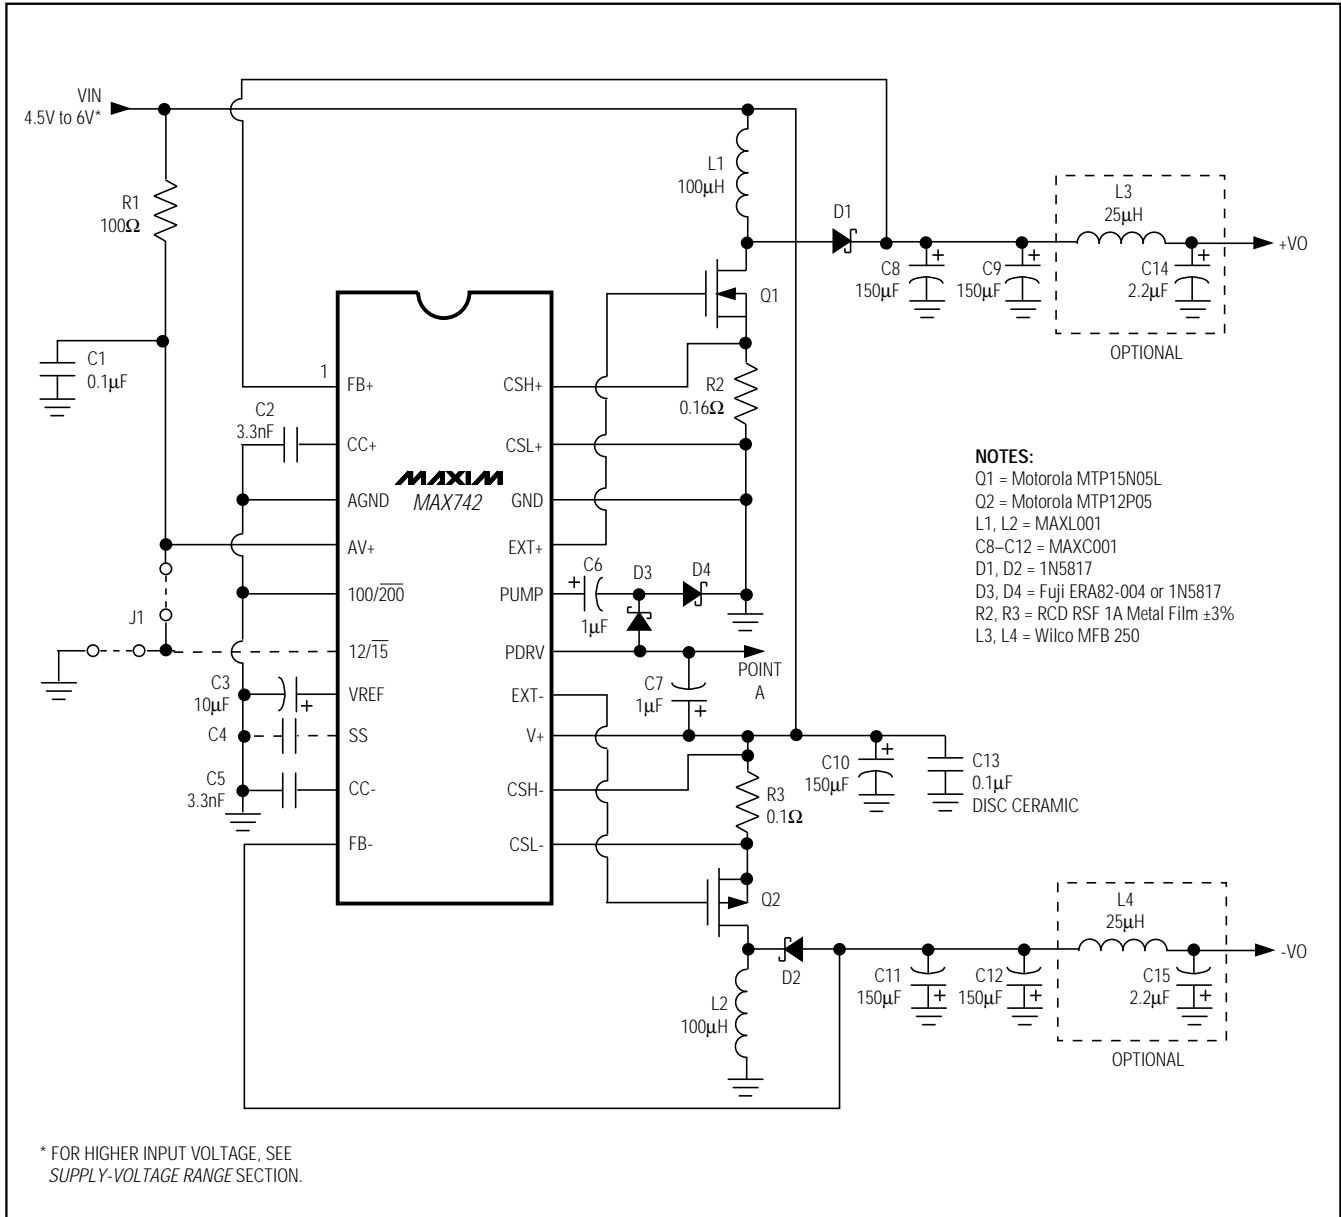

Figure 2. Standard 6W Application Circuit
(Circuit of Figure 2,  $V_+ = 5V$ ,  $100/200 = 12/15 = 0V$ ;  $T_A = T_{MIN}$  to  $T_{MAX}$ , unless otherwise noted.)
**Note 1:** Devices are 100% tested to these limits under 0mA to 100mA and to 125mA conditions using automatic test equipment. The ability to drive loads up to 1A is guaranteed by the current-limit threshold, output swing, and the output current source/sink tests. See Figures 2 and 3.
**Note 2:** Actual load capability of the circuit of Figure 2 is ±200mA in ±15V mode and ±250mA in ±12V mode. Load regulation is tested at lower limits due to test equipment limitations.
**Note 4:** Measured at Point A, circuit of Figure 2, with PDRV disconnected.
(Circuit of Figure 2,  $V_+ = 5V$ ,  $T_A = +25^\circ C$ , unless otherwise noted.)
(Circuit of Figure 2,  $I_{LOAD} = 100mA$ , unless otherwise noted.)
The MAX742 oscillator frequency is generated without external components and can be set at 100kHz or 200kHz by pin strapping. Operating the device at 100kHz results in lower supply current and improved efficiency, particularly with light loads. However, component stresses increase and noise becomes more difficult to filter. For a given inductor value, the lower operating frequency results in slightly higher peak currents in the inductor and switch transistor (see *Typical Operating Characteristics*, Peak Inductor Current vs. Load Current graph). When the lower frequency is used in conjunction with an LC-type output filter (optional components in Figure 2), larger component values are required for equivalent filtering.
The charge-pump (PUMP) output is a rail-to-rail square wave at half the oscillator frequency. The square wave drives an external diode-capacitor circuit to generate a negative DC voltage (Point A in Figure 2), which in turn biases the inverting-output drive stage via PDRV. The charge pump thus increases the gate-source voltage applied to the external P-channel FET. The low on-resistance resulting from increased gate drive ensures high efficiency and guarantees start-up under heavy loads. If a -5V to -8V supply is already available, it can be tied directly to PDRV and all of the charge-pump components removed. For input voltages greater than 8V, ground PDRV to prevent overvoltage. Observe PDRV absolute maximum ratings.
Figure 2's circuit has been tested at all extremes of line, load, and temperature. Refer to the *Electrical Characteristics* table for guaranteed in-circuit specifications. Successful use of this circuit requires no component calculations.
The 6W supply (Figure 2) generates ±200mA at ±15V, or ±250mA at ±12V. Output capability is increased to 10W or more by heatsinking the power FETs, using cores with higher current capability (such as Gowanda #050AT1003), and using higher filter capacitance.
Ripple is directly proportional to filter capacitor equivalent series resistance (ESR). In addition, about 250mV transient noise occurs at the LX switch transitions. A very short scope probe ground lead or a shielded enclosure is need for making accurate measurements of transient noise. Extra filtering, as shown in Figure 2, reduces both noise components.